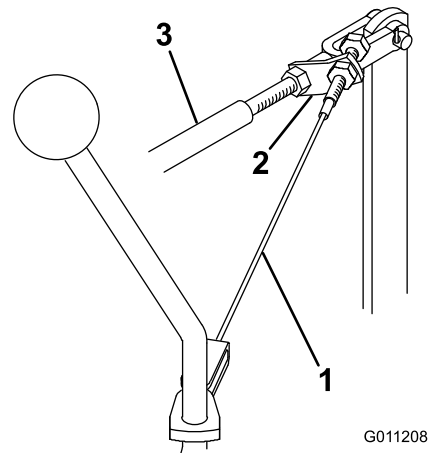

Figure 47
1. Loosen the front jam nut securing the cable assembly to the mow/lift control rod bracket (Figure 47).
3. While holding the mow/lift control rod in the rear position, tighten the rear locknut to remove almost all of the slack from the cable assembly (Figure 47). Do not over-tension the cable.